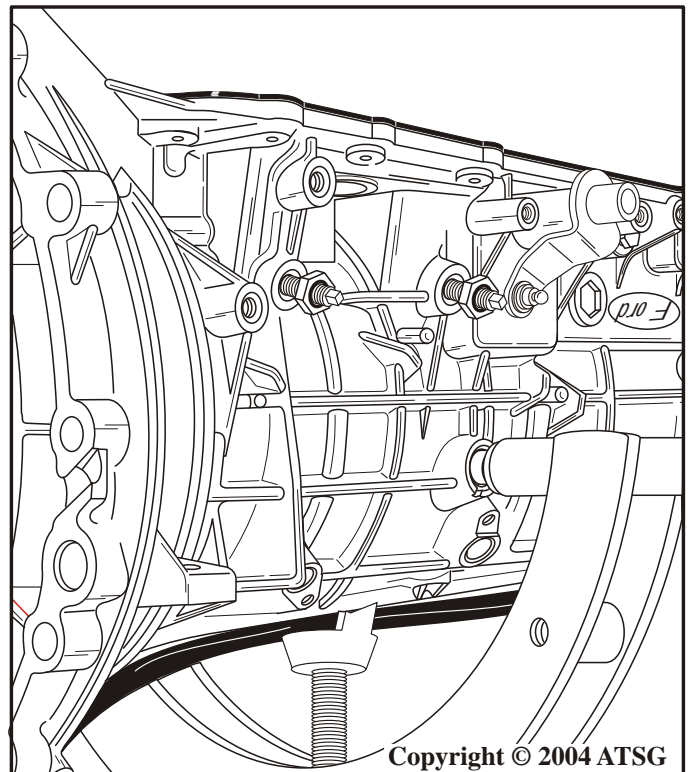

Figure 33
23. Loosen both band adjusting screws, as shown in Figure 33.